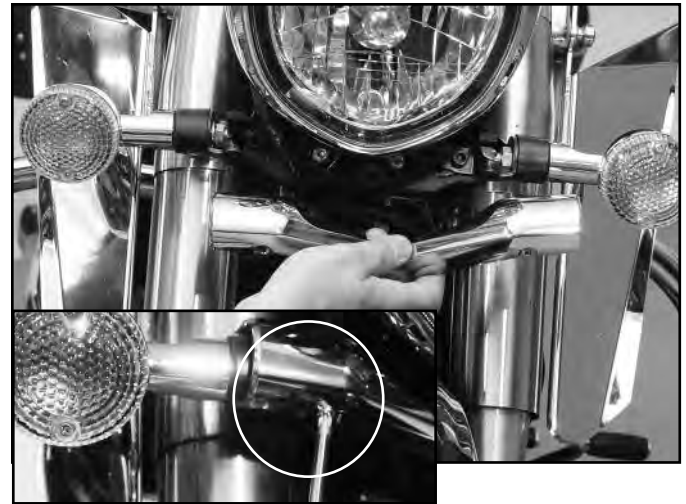

Figure 1
2. Remove stock trim from turn signal bar. (**#2 Phillips Screwdriver**) **Figure 1**